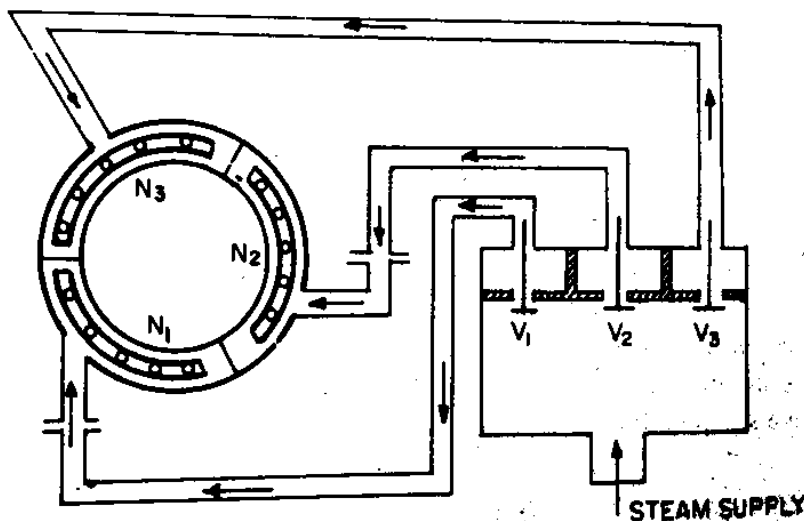

Figure 11 Nozzle Control Governing
- ❖ An arrangement often used for large steam power plants is shown in figure 11